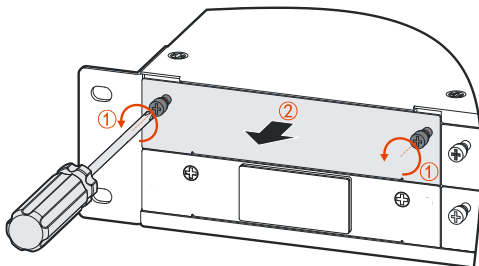

Figure3-17 Dismantle the dry contact expansion card plate
Step 1 Loose the screws of the expansion card plate on the system control box, and then take down the dry contact expansion card plate, as shown in Figure3-17.